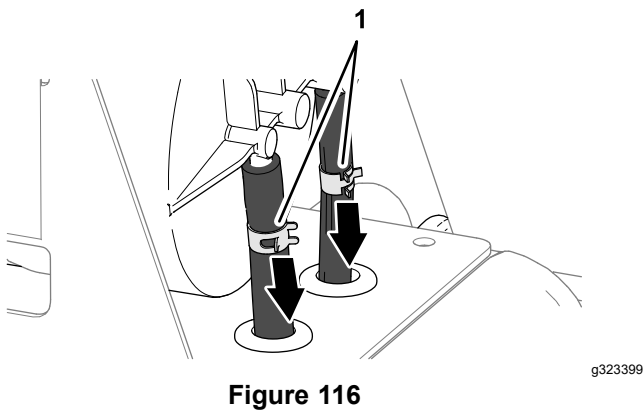

Figure 116
3. Loosen the 2 hose clamps that secure the hoses to the fittings of the carbon canister (Figure 116).